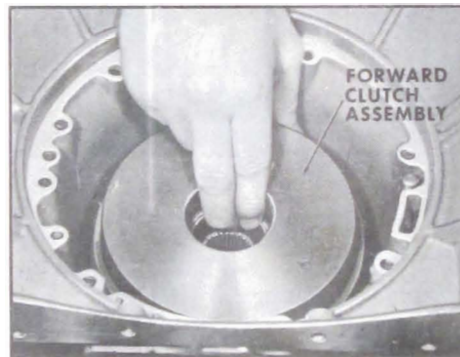

Figure 5-312
1. Install forward clutch assembly turning slightly to engage low sun gear with planet pinions. See Figure 5-312.